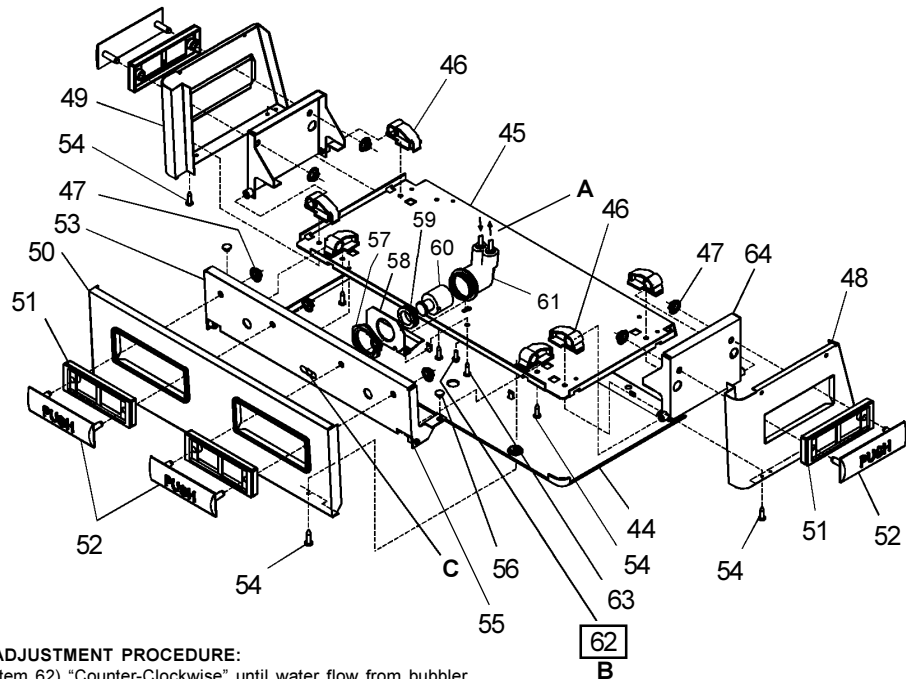

FIG. 3
- 8) Stream height is factory set at 45-50 PSI. If supply pressure varies greatly from this, readjust stream height to approximately 1-1/2" (38mm) above the bubbler guard by turning adjustment screw, accessible by removing front push panel, Item No. 51 (see Fig. 3 & 5).
- 9) Replace the front panel and secure by retightening four (4) screws.